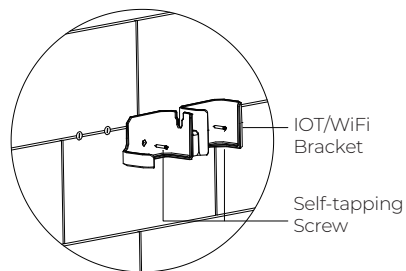

Fig. 5-2-4
Step 3: Fix the mounting bracket onto the wall and use the cross screwdriver to fasten 2 self-tapping screws into the wall plugs. See Fig. 5-2-4.